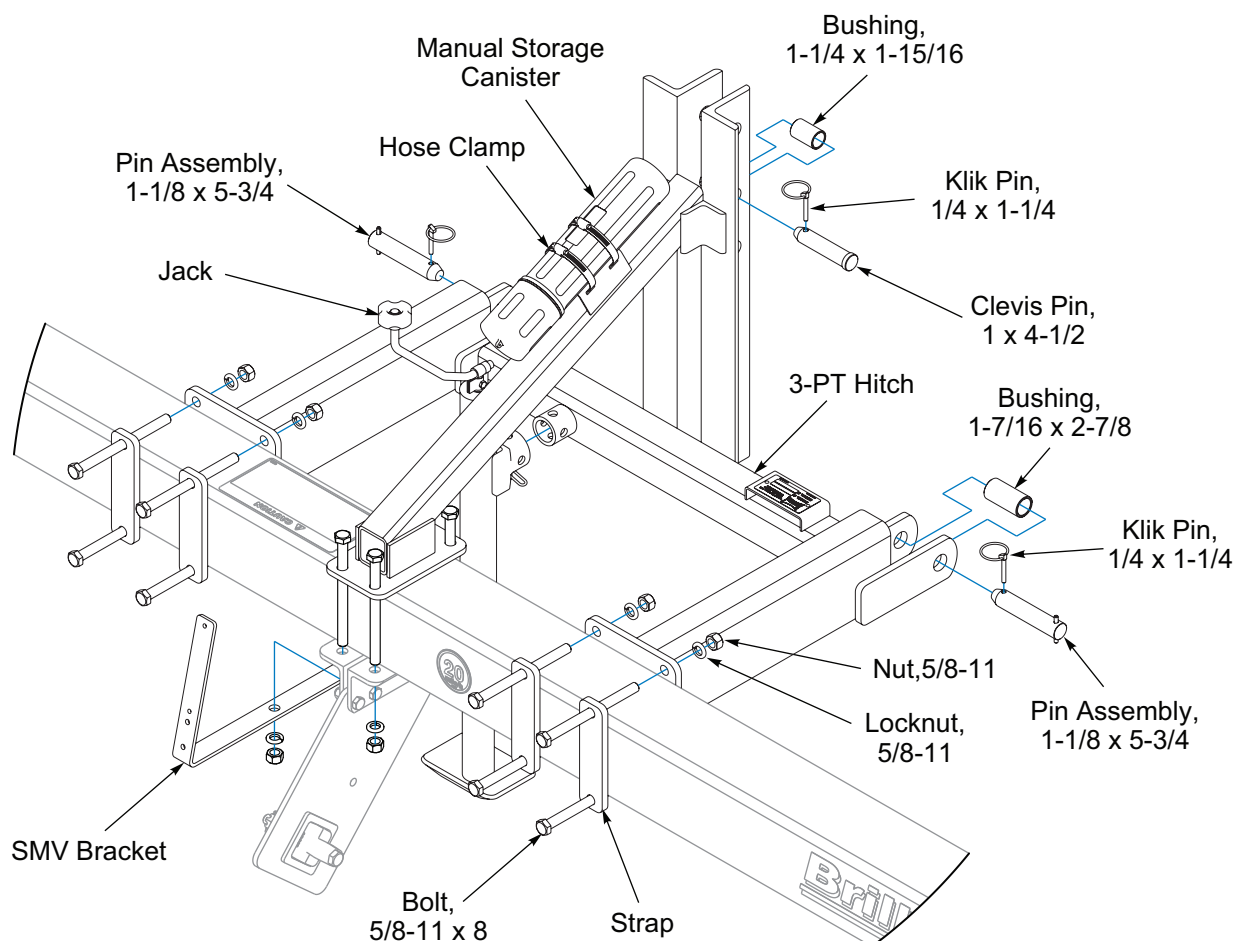

Figure 2-1: 3-PT Hitch
3. Center the 3-PT Hitch on the frame tube. Attach 3-PT Hitch ends to the front of the frame tube with 5/8-11 x 8 Bolts, Lock Washers, and Nuts. **See Figure 2-1.**